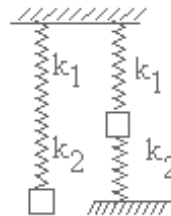

Figure 1
5. Determine the period of vibration of a weight 'P' attached to springs of stiffness k_1 and k_2 , in two different cases as shown in the figure 1. [16]